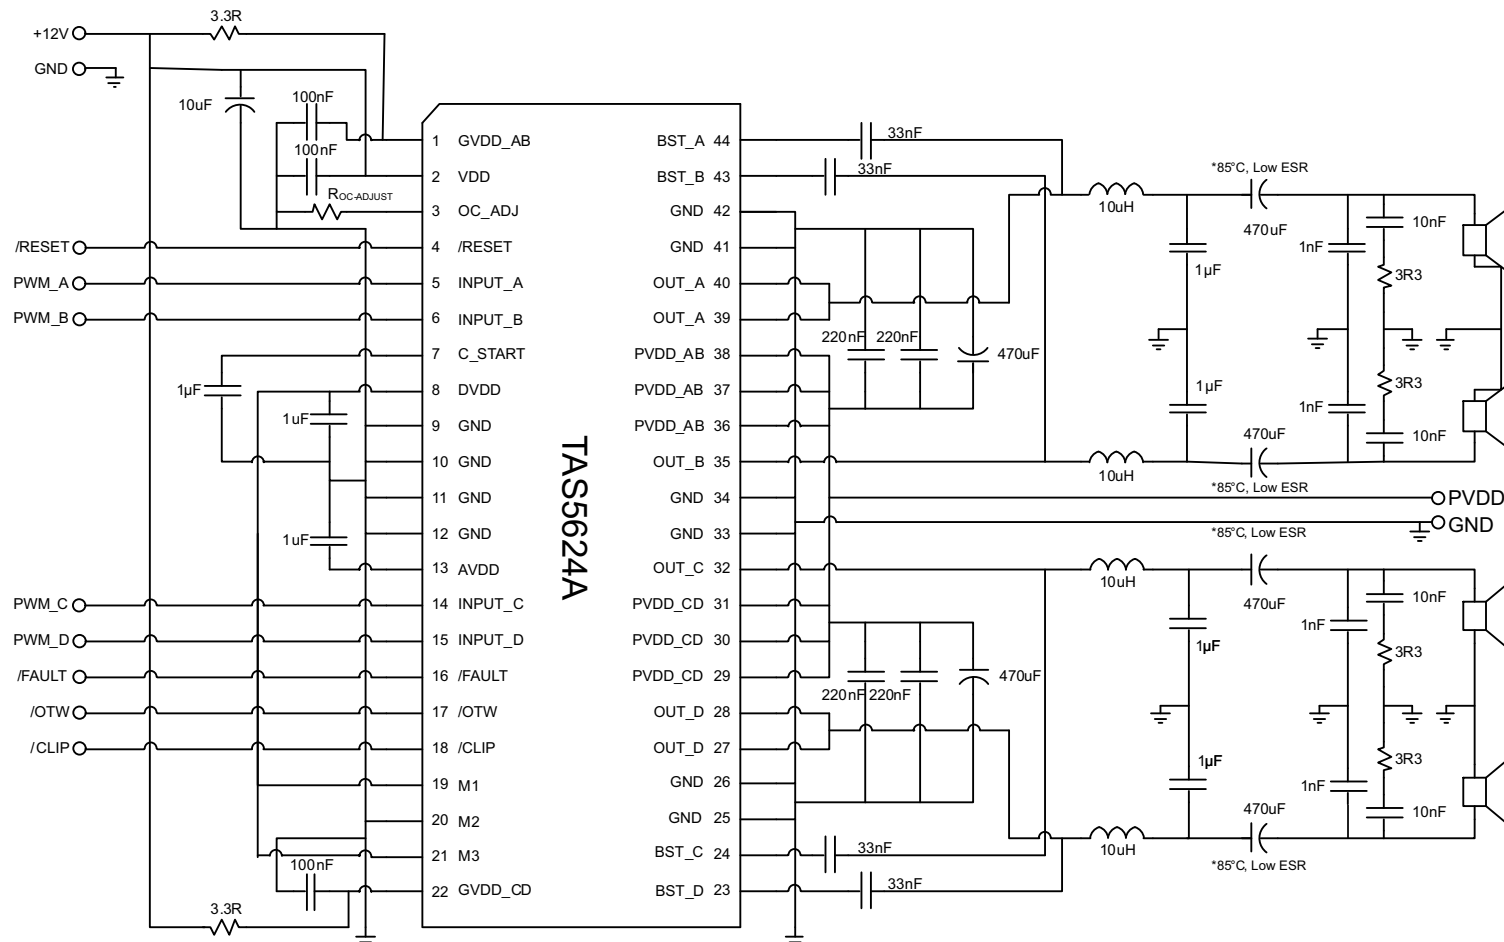

Figure 19. Typical (1N) SE Application
See Figure 19 for application schematic. In this application, four single-ended PWM inputs are used with AD modulation from the PWM modulator such as the TAS5558. AD modulation scheme is defined as PWM(+) is opposite polarity from PWM(-). The single-ended (SE) output configuration is often used to drive four independent channels in one TAS5622A device.
Design Requirements lists the design parameters of Figure 19.
*Design Requirements* lists the design parameters of Figure 19.